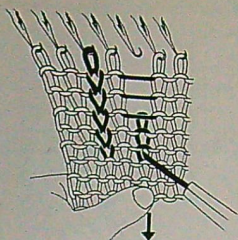

Fig. 39
2. Drop the third stitch from the end by pushing the needle forward then back until the stitch drops off the needle then, allow the stitch to drop as far down the fabric as you wish. See Fig. 39.